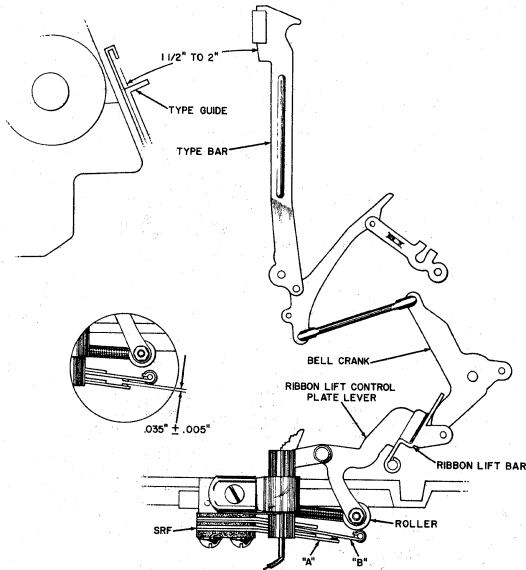

Figure 2
When a character printing key lever is operated, its type bar moves toward the platen and a bell crank pivots the Ribbon Lift Bar (Figure 2). The Ribbon Lift Control Plate Lever is attached to and moves with the Ribbon Lift Bar. The roller on the tail of the lever strikes and closes the Ribbon Feed Contact (SRF) to complete a circuit to energize the Ribbon Feed Magnet (LRF).
1. With a printing type bar held $1\frac{1}{2}''$ to $2''$ away from the type guide (Figure 2), form contact "A" so it just touches contact "B".
2. With the type bar restored to its non-operated position, form contact "B" so there is a clearance of $.035''$ plus or minus $.005''$ between it and contact "A" (Inset, Figure 2).